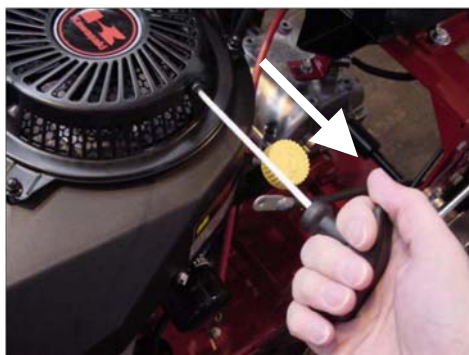

FIGURE 3.15
7. Pull Recoil Starter Handle and Engine should start. See Figure 3.15. (NOTE: Several pulls may be necessary to start engine.)